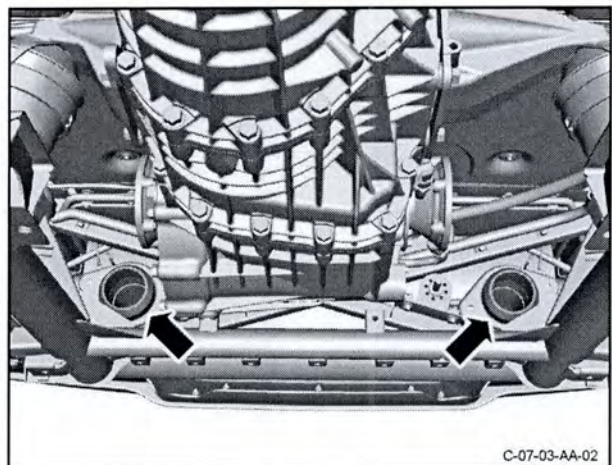

Figure 8
15. Remove and discard the two sealing rings (refer to Figure 8).